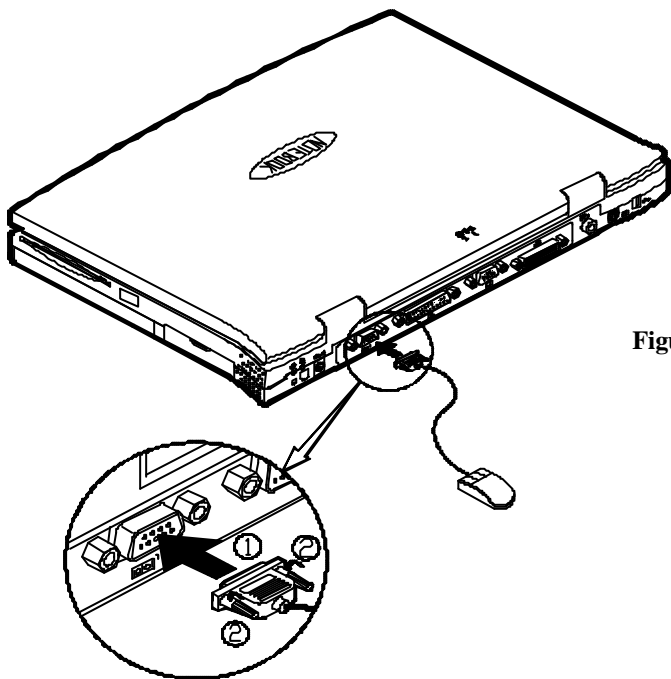

Figure 2-23
- Connect the cable to the serial port on the rear of the Notebook Computer (Step 1 in Figure 2-23).
- Tighten the screws that fasten the cable to the serial port (Step 2 in Figure 2-23).